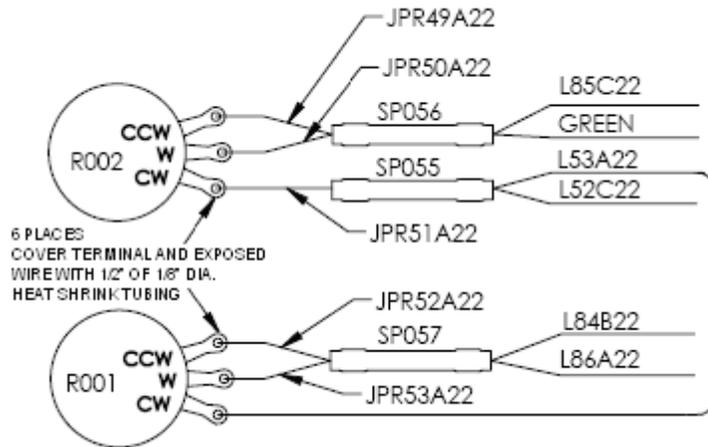

Figure 33-2 Light Dimmer Wiring
7. Connect the dimmer control wiring removed in step 4 of the Panel Light Dimmer Controls Removal procedure on page 12. See Figure 33-2 for a schematic of the wiring for an individual dimmer control.